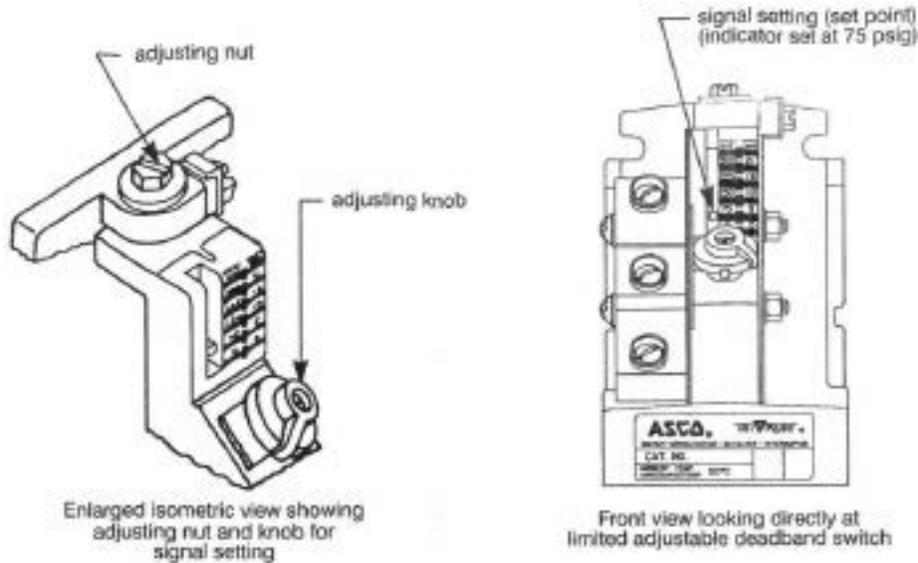

Figure 7.1: Pressure Switch
In the Centrox units, typically the normally open contact of the pressure switch is used for the wiring purposes. Please refer to Figure 7.1 for the following adjustment procedure:
3. Turn adjusting nut at top of the switch clockwise until setting indicator is fully up. Turn deadband adjusting knob on front of the switch clockwise as far as possible. Refer to Figure 7.1.